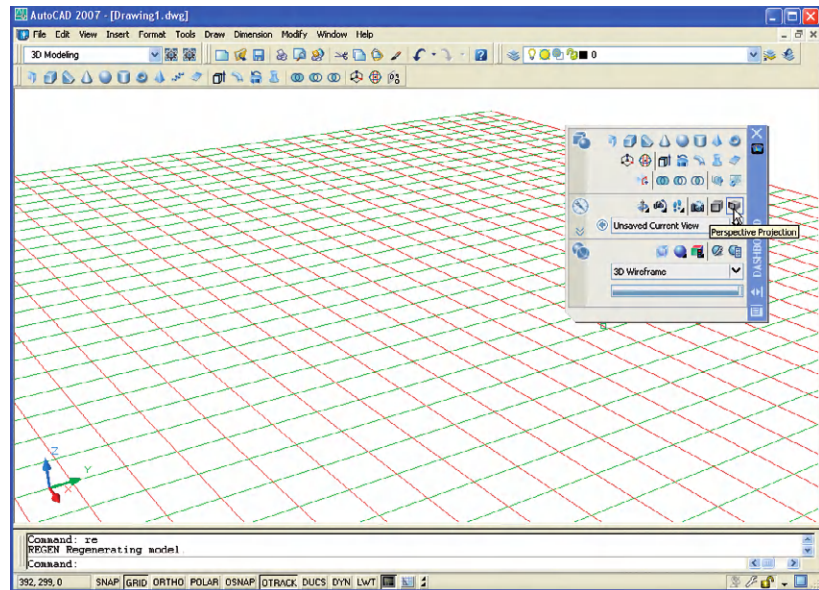

Fig. 16.4 The acadiso3D screen
5. The AutoCAD window should appear as in Fig. 16.4.
10. Note (Fig. 16.4) that the screen is in **Perspective** projection. In later chapters it will often be set to **Parallel** projection.